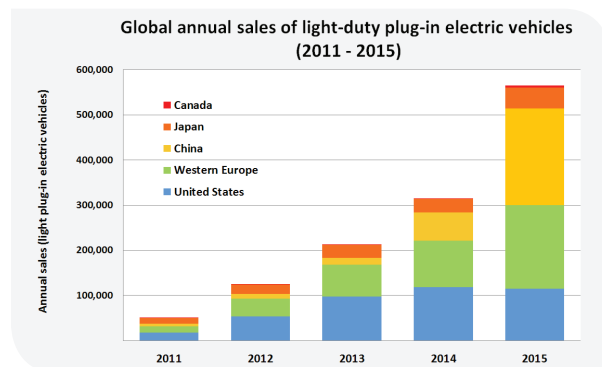

Figure 2: Source: <http://energy.gov/eere/vehicles/fact-918-march-28-2016-global-plug-light-vehicle-sales-increased-about-80-2015>
Electric vehicles (EV) have been around for more than a decade as a niche product. Lately, China has been pushing ahead to be the world leader of EV as one of several ways to address its air pollution problem. In 2015, the total number of EVs (excluding EV buses) sold in the world was estimated to be 565,000, with around 214,000 EVs sold in China, 185,000 in Europe and 115,000 in the USA. This is an increase of 80% over 2014. The thick, brown, polluted air is a major health concern the Chinese would like to eliminate (Figure 1). And thanks to generous government subsidies, the EV market will see a substantial growth in the coming years (Figure 2).